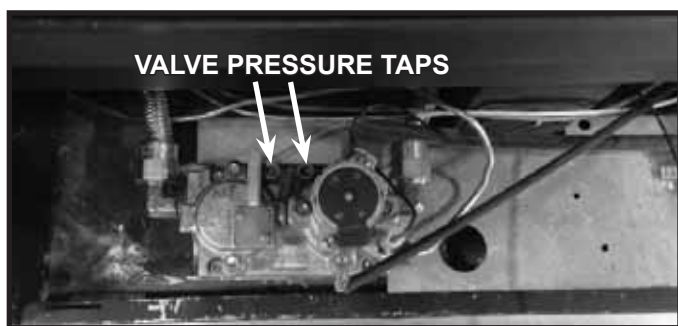

Figure 9.1. Valve Pressure Taps.
- Valve pressure taps are accessible by removing the lower access cover panel. See Figure 9.1 and 9.2. If the appliance has been fully installed and finished, remove the barrier glass and transition media tray.